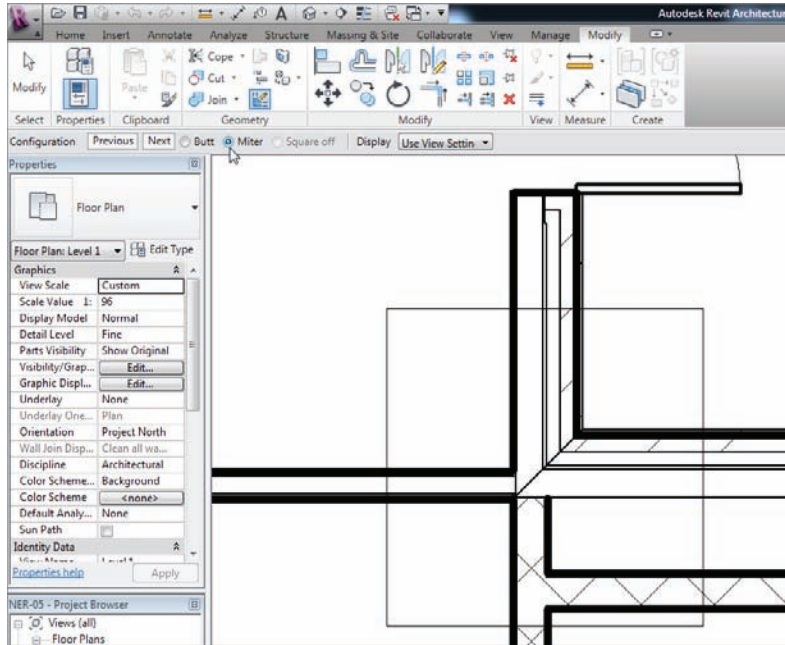

FIGURE 2.54 Adding a mitered join
10. On the Options bar, you now see some choices for configuring this intersection. Select the Miter option, as shown in Figure 2.54. This option is the most popular.